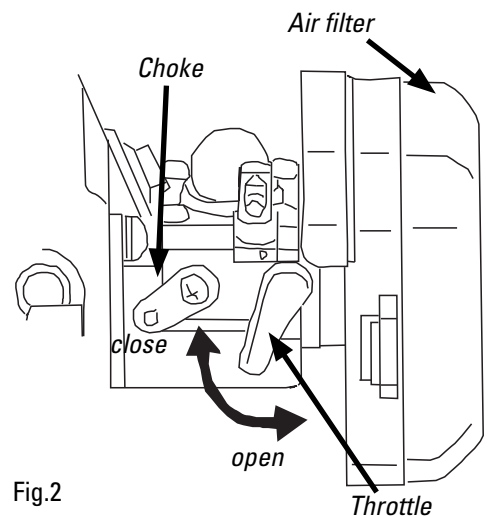

Fig.2
- ▶ Close the choke and make sure the throttle is set to a fast idle on the transmitter (1/4 - 1/3 open) (Fig. 2).